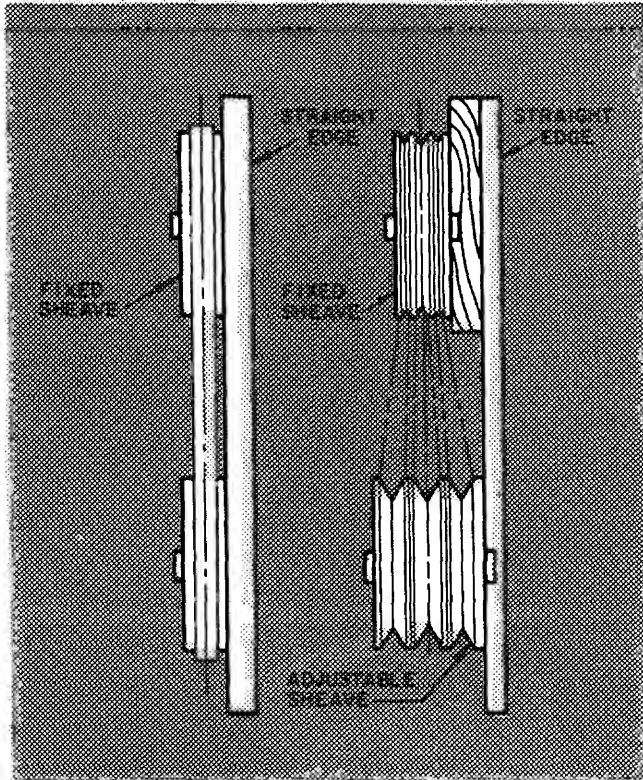

Fig. 22 – Correct Sheave Alignment
6. Install fan and motor sheaves with correct angular and parallel alignment per Fig. 22. Refer to drive package carton for additional instructions.
6. Install fan and motor sheaves with correct angular and parallel alignment per Fig. 22.